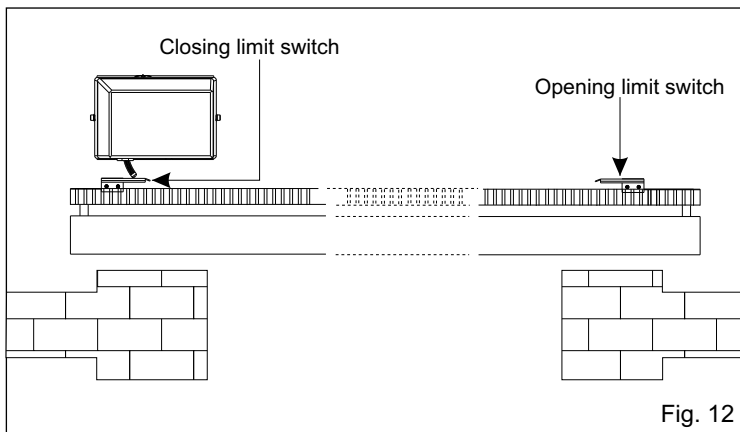

Fig. 12
**6.1.** To set up and adjust the limit switches in opening, follow the instructions written here (Fig. 12):
**6.2.** To set up and adjust the limit switches in closing, follow the instructions written here (Fig. 12):